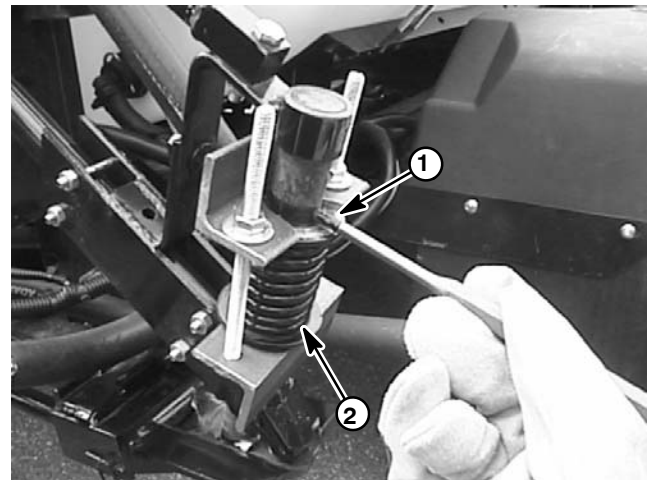

Figure 57
4. Compress spring in breakaway assembly slightly. Drive roll pin from hinge (Fig. 57). Remove flat washer and spring from assembly.